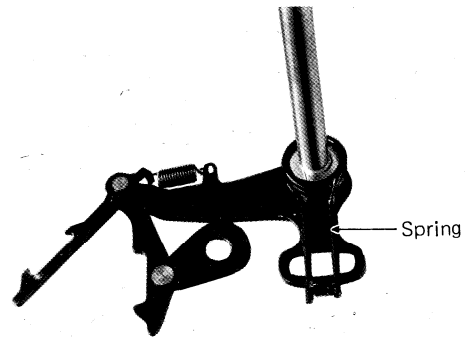

Fig. 5-5-17
13. Fit the gear shifting shaft return spring with less bent side down to the shaft. (Fig. 5-5-17)